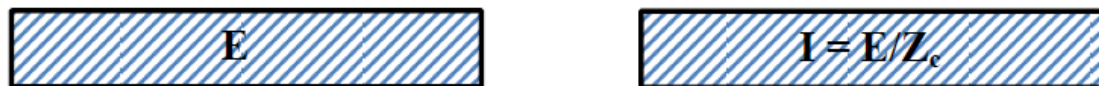

Figure 3.a
- Let a source of constant voltage E be switched suddenly on a line open-circuited at the far end. Then neglecting the effect of line resistance and possible conductance to earth, a rectangular voltage wave of amplitude E and its associated current wave of amplitude $I = E/Z_c$ will travel with velocity v towards the open end. Figure 3.a shows the conditions at the instant when the waves have reached the open end, the whole line being at the voltage E and carrying a current I